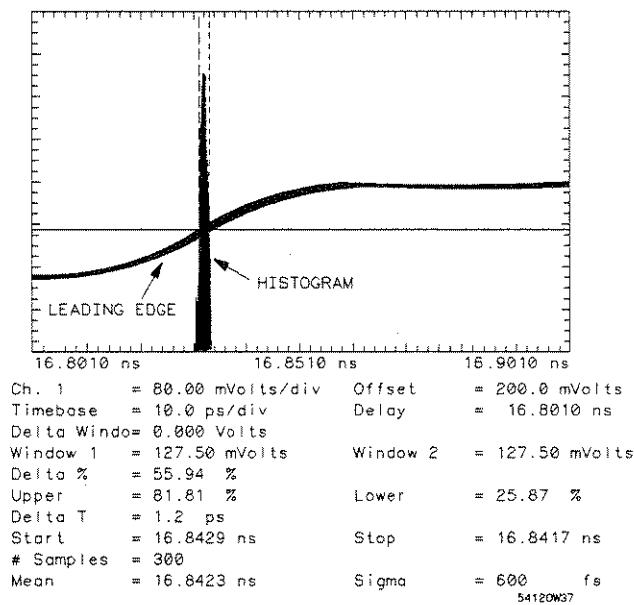

Figure 15.9. Time Histogram
- set **WINDOW MARKER 1** and **2** so they intersect the leading edge of the TDR pulse at the same point. See figure 15-9.